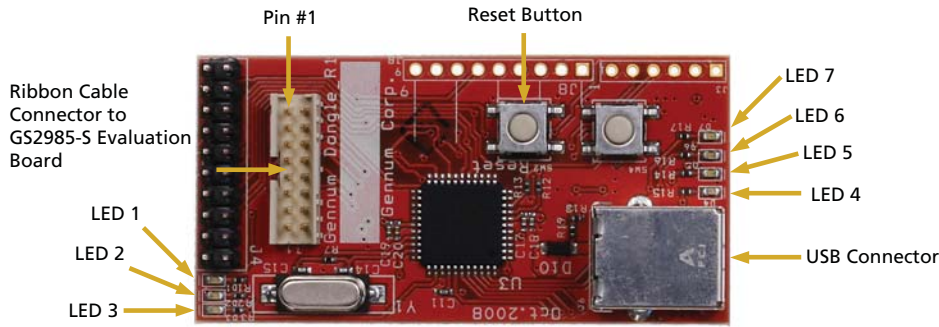

Figure 1-10: Gennum USB Dongle Board
5. Perform a hard reset, via the Reset button on the Gennum USB Dongle board as per Figure 1-10.